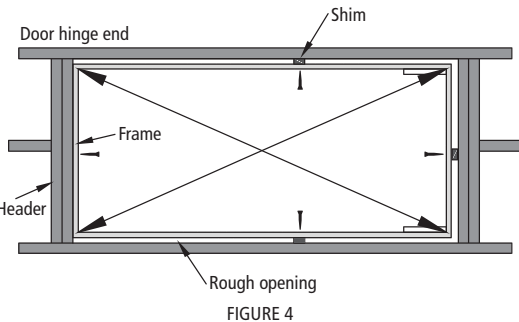

FIGURE 4
E. Carefully open attic ladder door but do not unfold the climbing section until indicated in step 3. Place the frame on the door hinge side of the ladder up against the header and center side to side in the rough opening. Temporarily secure to header with 16d nail. Make sure frame is flush with ceiling before nailing (figure 4, next page).
F. Center and square the opposite side of attic ladder frame using shims. Ensure ladder frame is square by measuring diagonals of the frame within ⅛". Secure other sides of ladder frame to ceiling joists with remaining three 16d nails (figure 4).